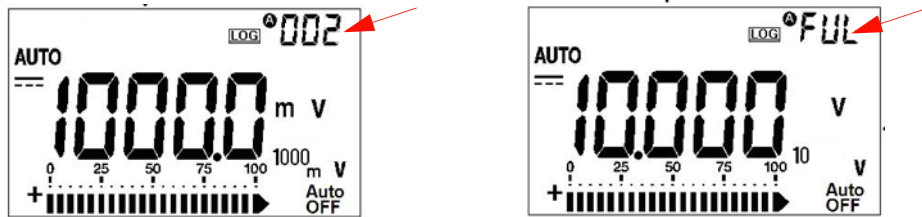

Figure 2-2 Interval logging display
- 2 The reading automatically logs into the memory in every interval as preset in Setup mode, see Figure 2-2.